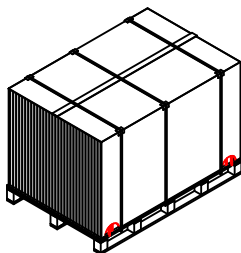

Figure 3
3. 割开长边一侧的纸板，剪断内部捆扎组件和托盘的打包带，如图3。注意不要划伤组件。
Cut the cardboard of one long side of the box, then cut the inner packing-belts around the modules and pallet, as showed in Figure 3. Pay attention to not damage the modules during the cutting process.